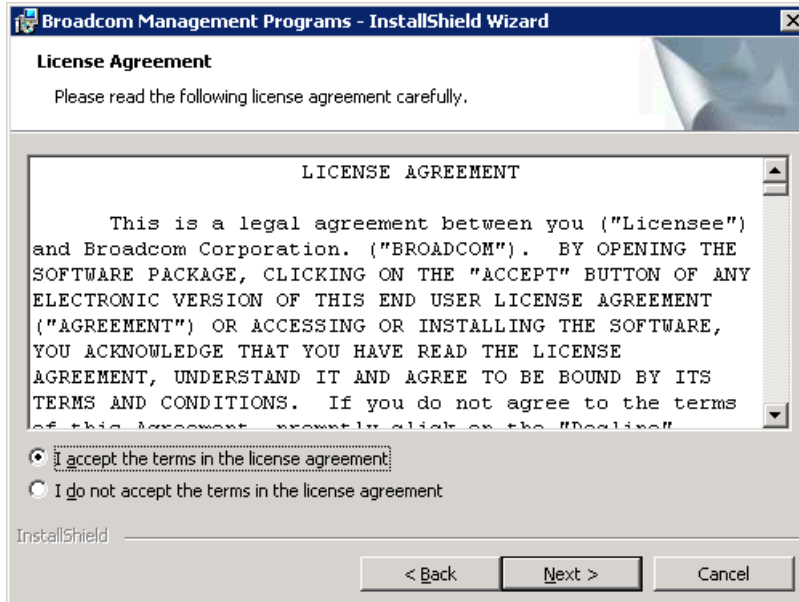

Figure 5-25 The License agreement
2. Accept the License agreement (Figure 5-25) and click **Next**.